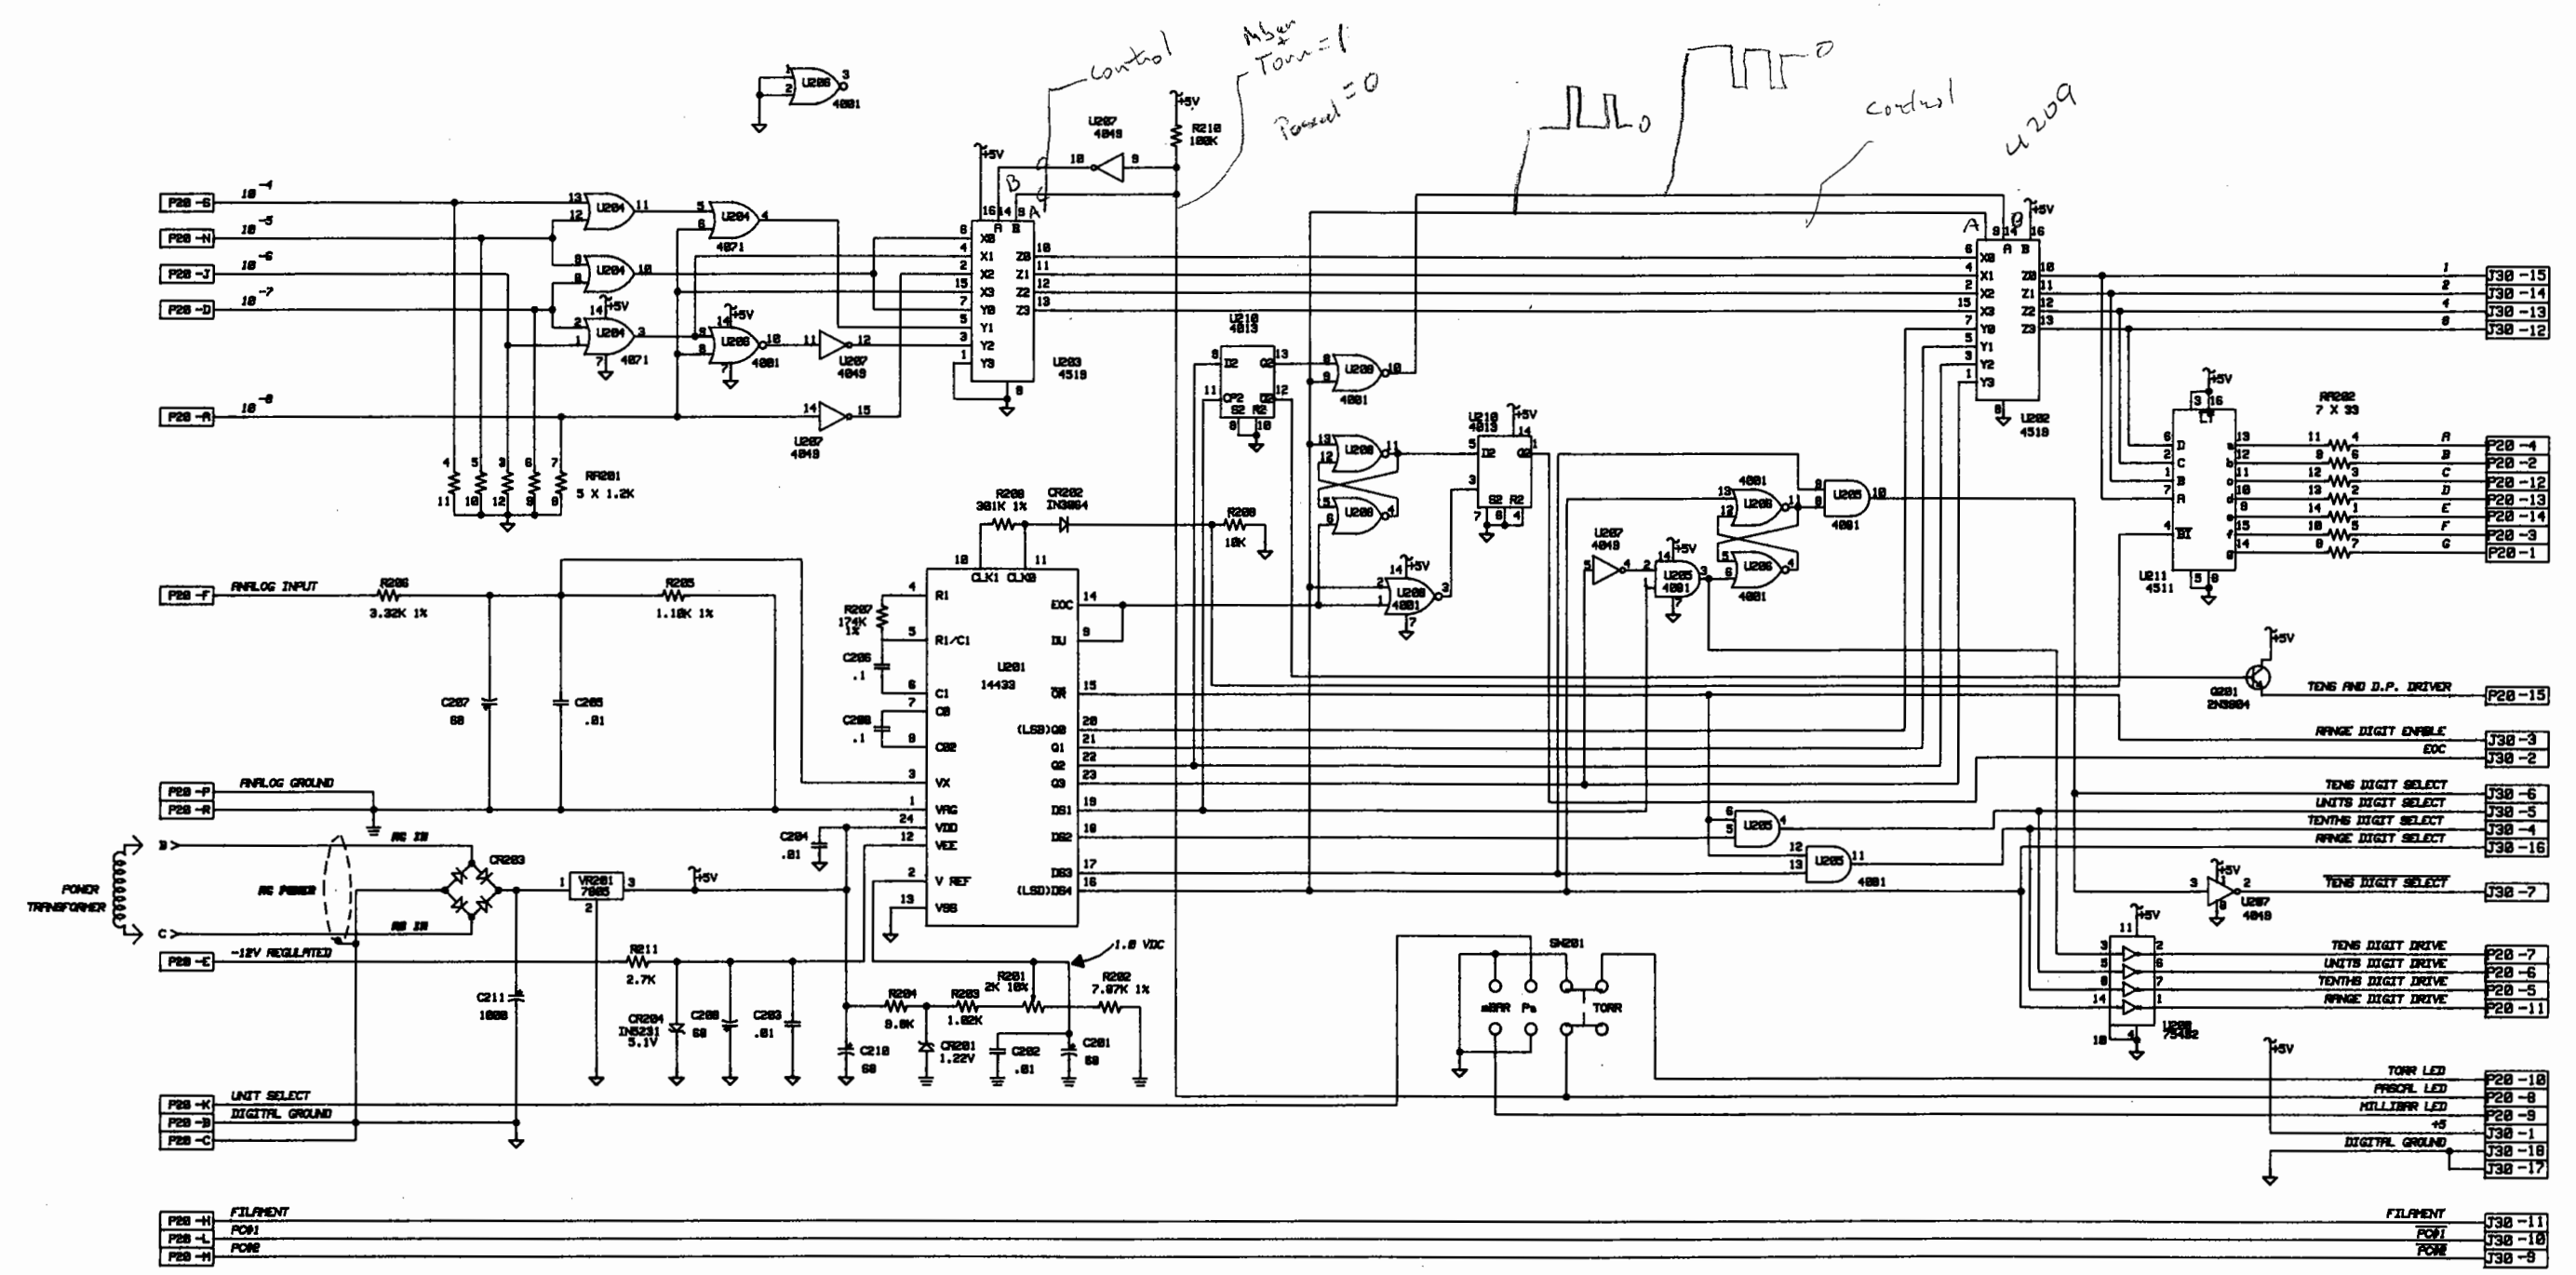

FIG. 5-11 SCHEMATIC OF CONVERTER BOARD
5.14 Converter Section (Refer to Fig. 5-11)